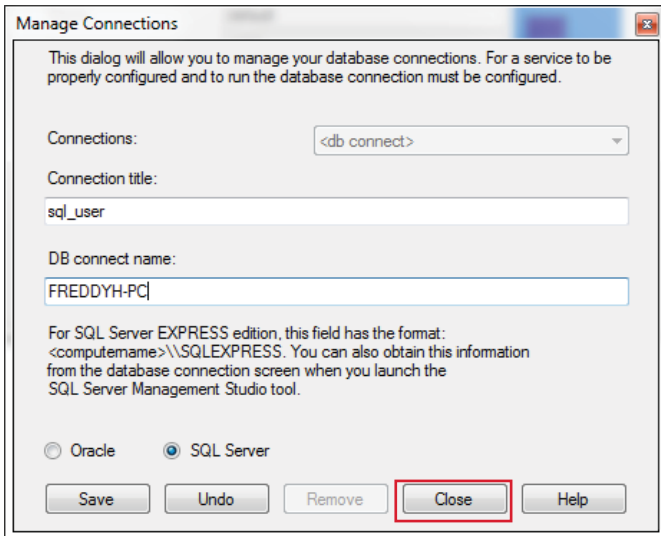

Fig. 18. Manage the database connections.
- Select the database type and name the connection (→ fig. 18).